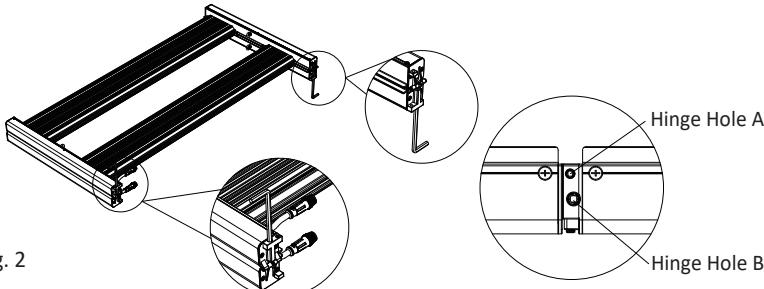

Fig. 2
b. Use allen key (Part D) to loosen hinge hole B on both hinges, as Fig. 2.